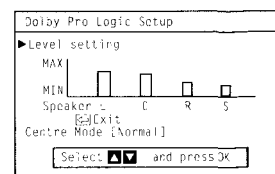

Fig. 35.
- 1 Select Sound Control in the main menu, then select Dolby Pro Logic set up using  $\Delta+$  or  $\nabla-$  and press OK. The Dolby Pro Logic Setup menu appears. (Digital Surround is set to Dolby Pro Logic mode automatically). (Fig. 35).